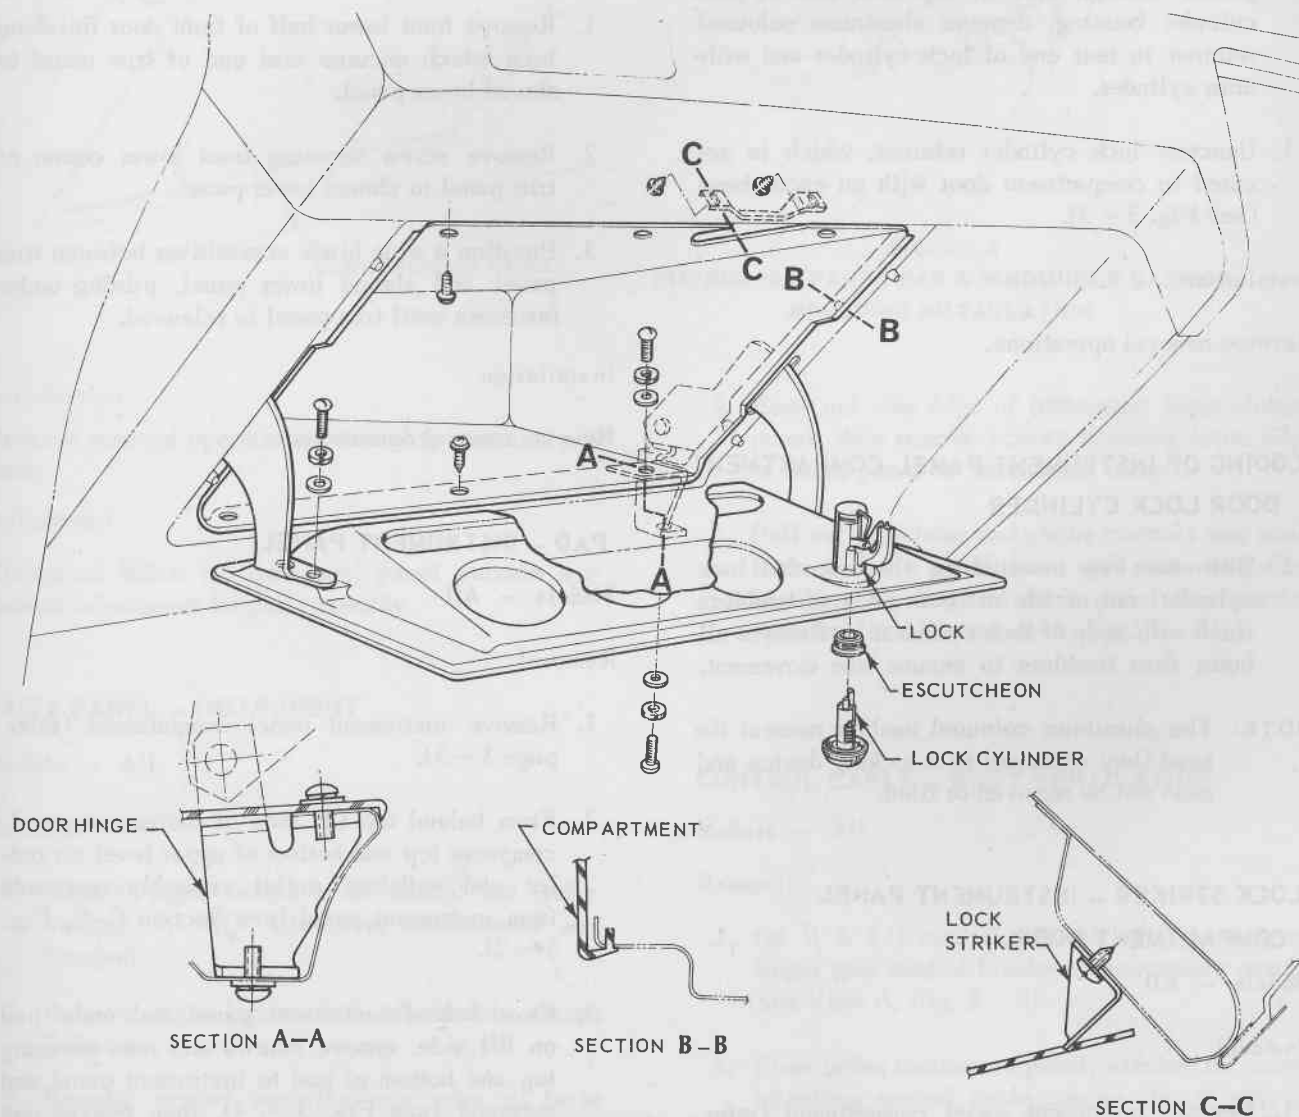

FIG. 3 - 3
1. Remove screws securing instrument panel compartment hinges to door (see Section A-A, Fig. 3 - 3) then remove door.
3. Unscrew lock cylinder retainer, which is secured to compartment door with an escutcheon (see Fig. 3 - 3).